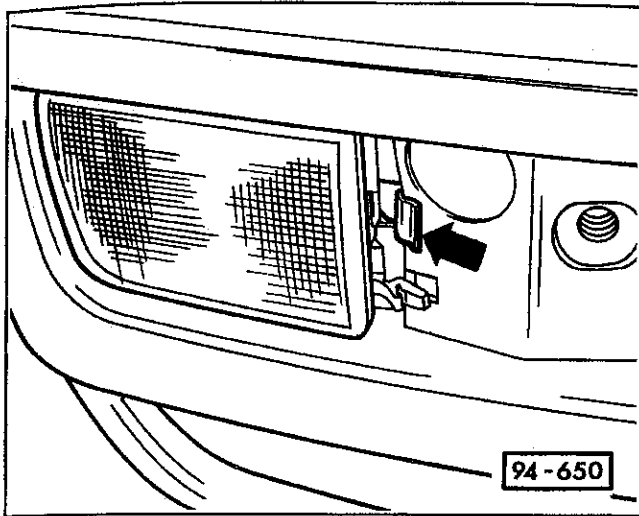

Fig. 5. Front turn signal locking tab (arrow).
2. Push in locking tab and pull turn signal housing from bumper. See Fig. 5.